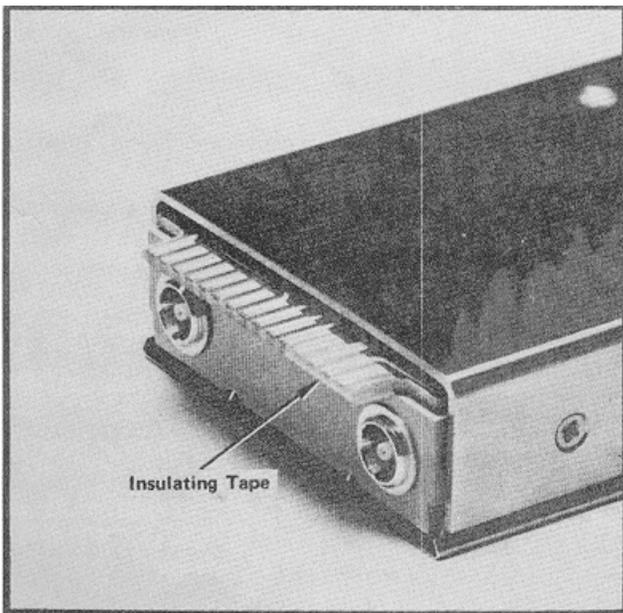

Fig. 4-4. Plug-in module connector partially Insulated so the HI Z calibrator level can be adjusted.
- a. Remove the plug-in module and place insulating tape (e.g., Scotch tape) over pins A13-B13, A14-B14, A15- B15 of the interface connector (Fig. 4-4), then re-insert the plug-in module in its compartment.